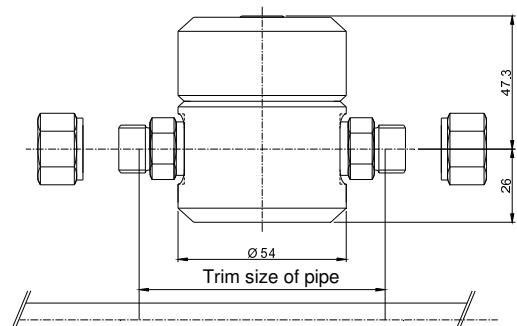

Fig. 1: Mounting Position of the BDA 06
**Recommendation:** If the BDA 06 is to be installed in a new duct, it is recommended, first to bend and install the duct without the BDA 06, and then to place the BDA 06 as shown in fig. 1.